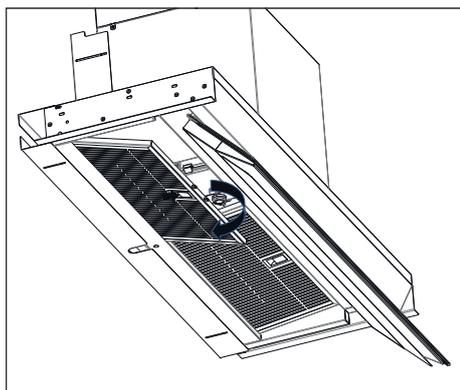

Fig. 20
2. ➤ Remove the oil filters (Fig. 20).